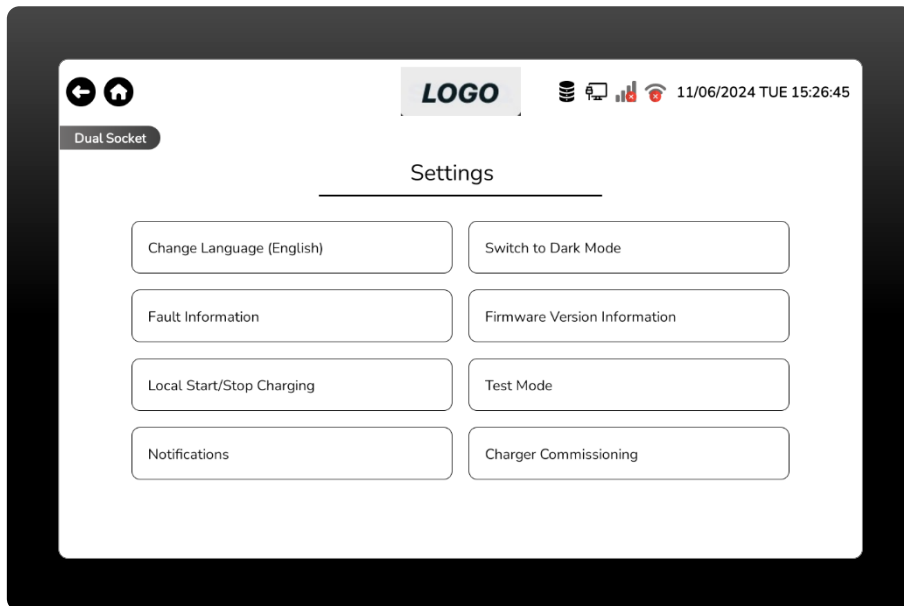

Figure 17 User Interface Switch to Light Mode.
- This switch to light mode switches the user interface from dark to light mode, and vice versa. (Figure 17)